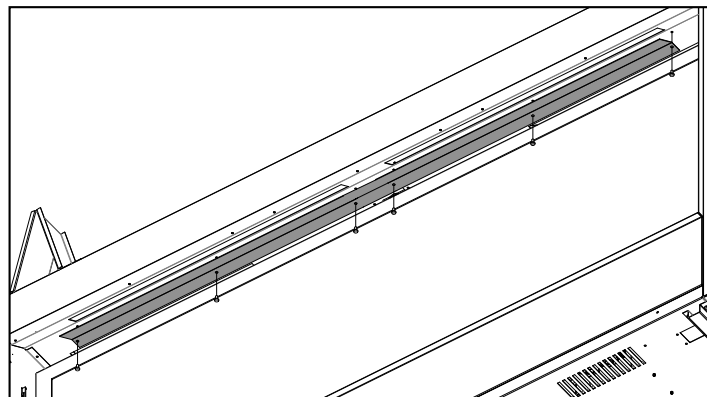

**Figure 22: - Discharge Accelerator screws**
2. Remove the middle screw from the Discharge Accelerator, above the door glass, tying the left and right pieces together. (see Figure 22)